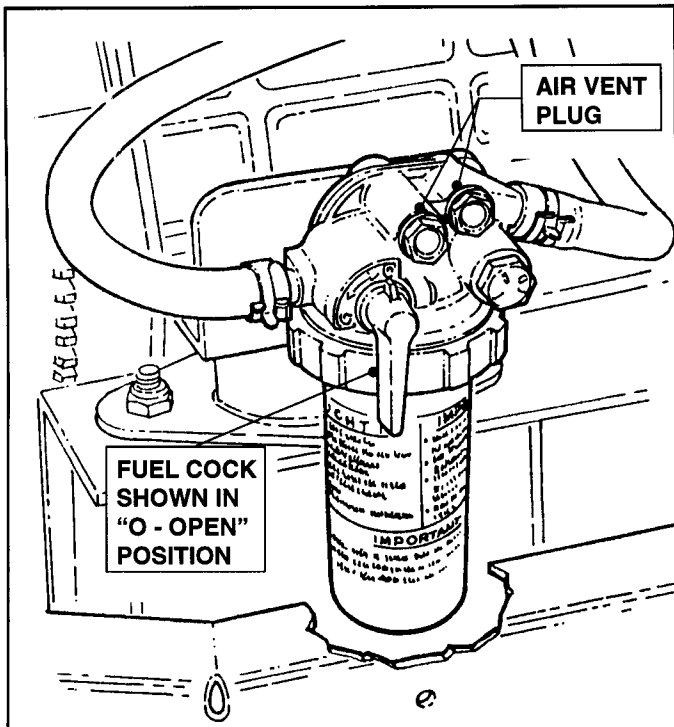

FIGURE 5.3
3. Open Fuel Filter Cock. See Figure 5.3.